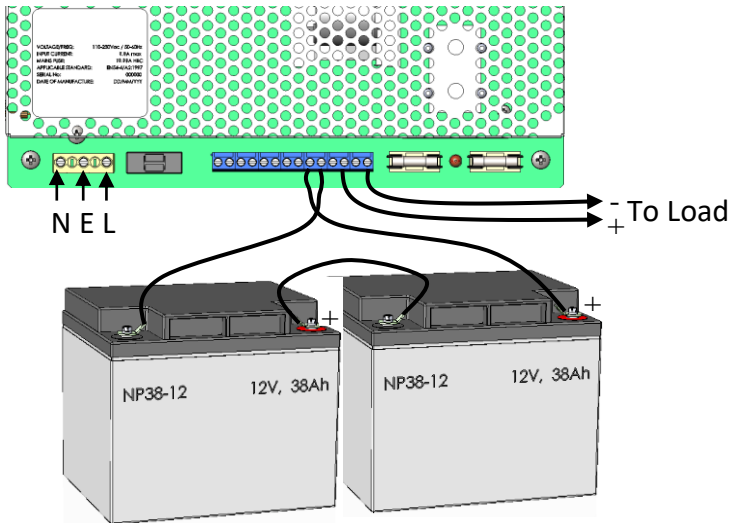

Figure 4 – Power, Load and Battery connections
- 5) Connect the load (output) wiring as shown in Figure 4. Cable tie to saddle provided (adjacent to exit hole). **NOTE:** Cable runs to the load(s) must not exceed 30m.
- 13) Connect the free Positive and Negative terminals of the batteries to the PCB terminals Batt+ and Batt - using the cables provided. See Figures 4 & 5.